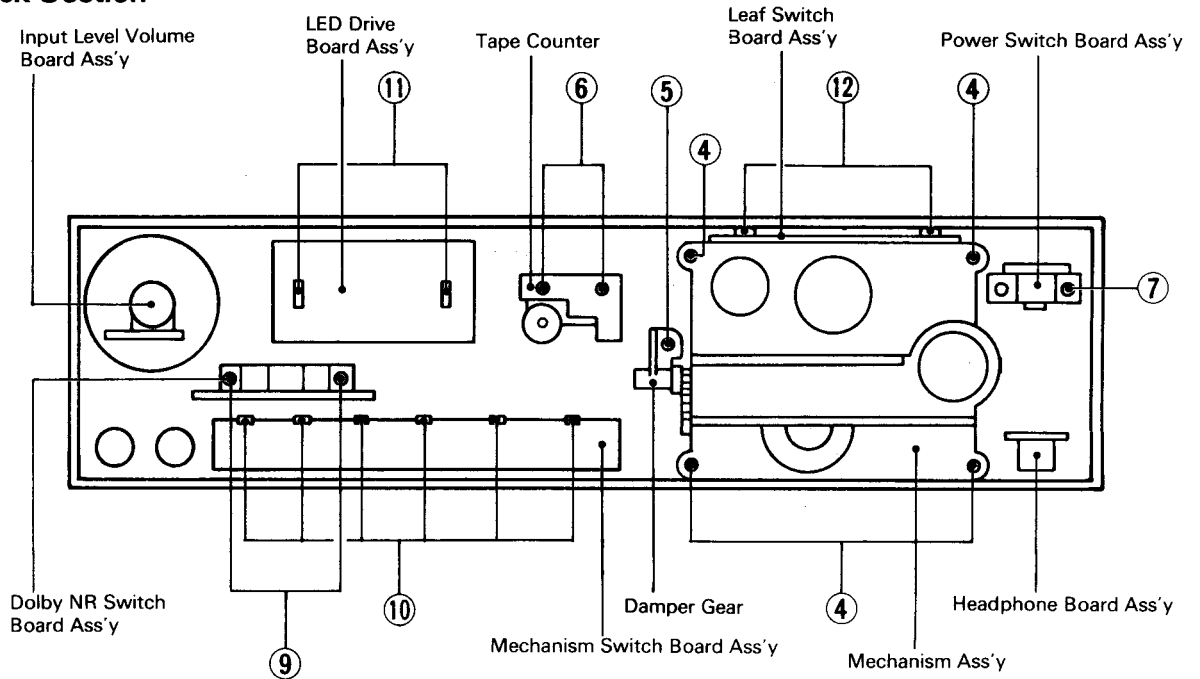
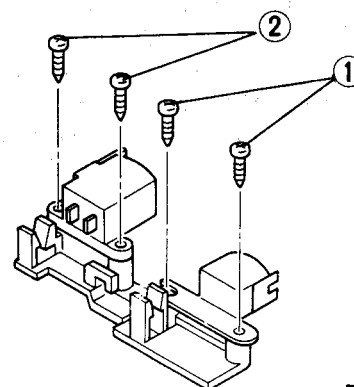

Fig. 6-3
Fig. 6-4
2. Remove four screws ④ retaining the mechanism ass'y. (Fig. 6-3)
4. Remove two screws ⑫ retaining the leaf switch board ass'y to mechanism ass'y. (Fig. 6-3)
1. Remove one screw ⑤ from damper gear. (Fig. 6-3)
1. Remove two screws ⑥ retaining the tape counter. (Fig. 6-3)
1. Pull out the volume knob. (Fig. 6-3)
1. Remove two screws ⑨ from the Dolby NR switch. (Fig. 6-3)
- Remove six pawls ⑩ retaining the mechanism switch board ass'y. (Fig. 6-3)
- Remove two pawls ⑪ retaining the LED drive board ass'y.
■ REC/PB head ass'y (Fig. 6-4)
1. Remove two screws ① retaining the REC/PB head ass'y (one screw for adjustment).
■ Erase head (Fig. 6-4)
1. Remove two screws ② retaining the erase head.